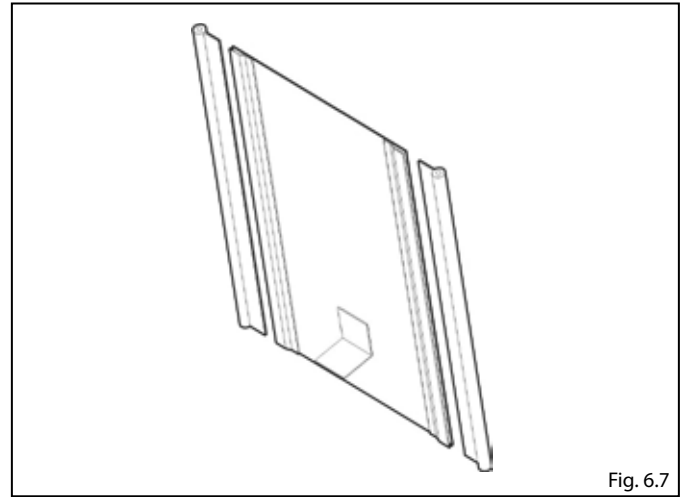

Fig. 6.7
- In this case, close the distributor outlets (maximum one per distributor) with gate (Fig.6.7).